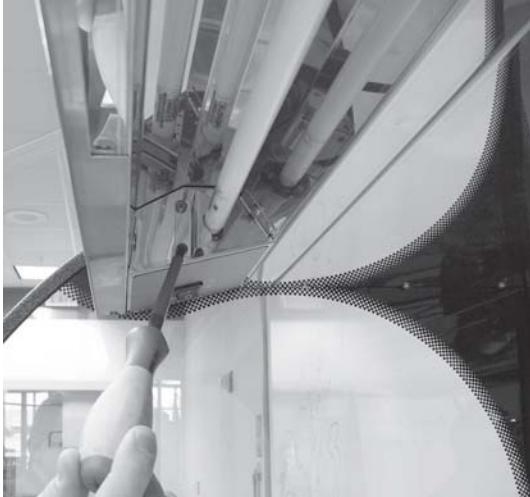

Figure 6
1. Remove the screws securing the fluorescent bulb guards on both ends of the bulb, and remove guards. Figure 6.